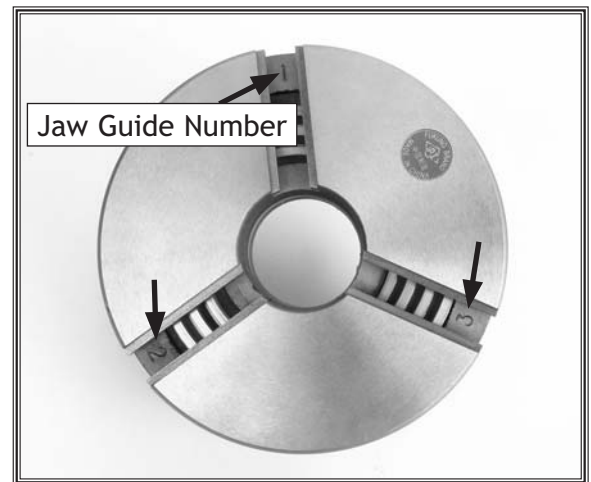

Figure 23. This chuck has jaw references on the inside of the jaw guide. (Chuck removed from spindle for clarity).
3. Locate the corresponding jaw guide on the chuck body (see **Figure 23**).